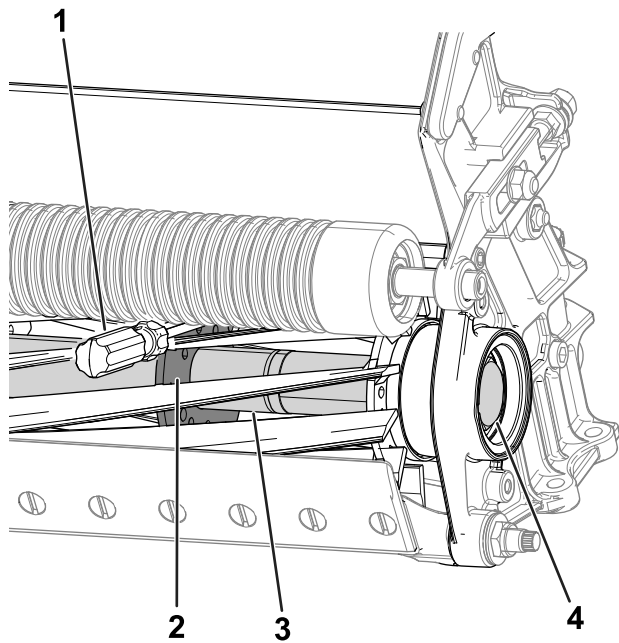

Figure 27
2. Insert a long-handled pry bar (recommended 3/8 inch x 12 inches with screwdriver handle) through the bottom of the cutting reel, closest to the side of the cutting unit that you will be torquing (Figure 27).
3. Place the pry bar against the weld side of the reel support plate (Figure 27).